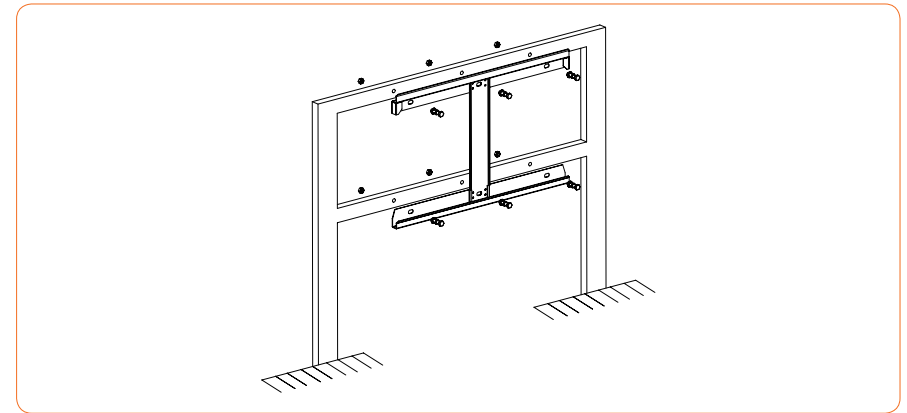

Figure 4-6 Fixing the bracket
- ③ Follow the instructions in the picture below to install the M10 assembling bolts (bolt, spring washer, flat washer) and tighten the bolts with torque wrench in the torque of 35-40N.m, see Figure 4-6 for details: